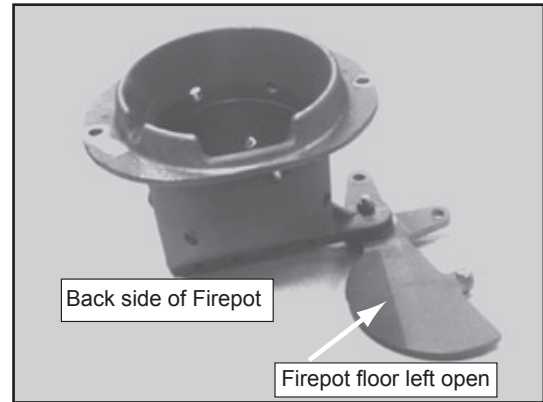

Figure 18.2
- d. The fire pot floor plate must be fully closed when finished (**Figure 18.2**).